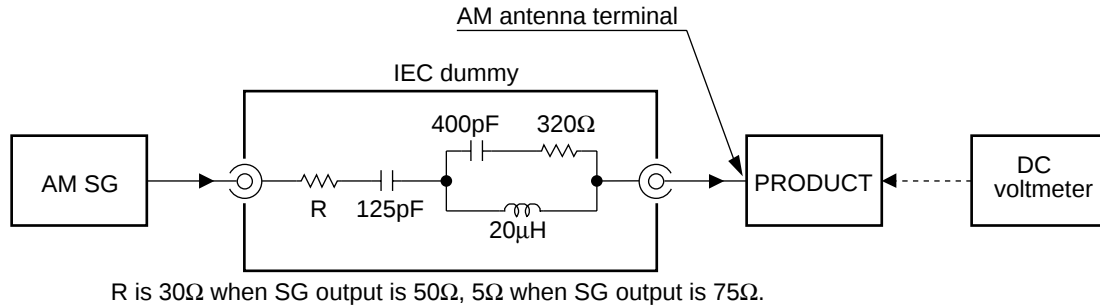

Fig. 3 SW Adjustment Wiring Diagram
- Connect the wiring as shown in Fig. 3.